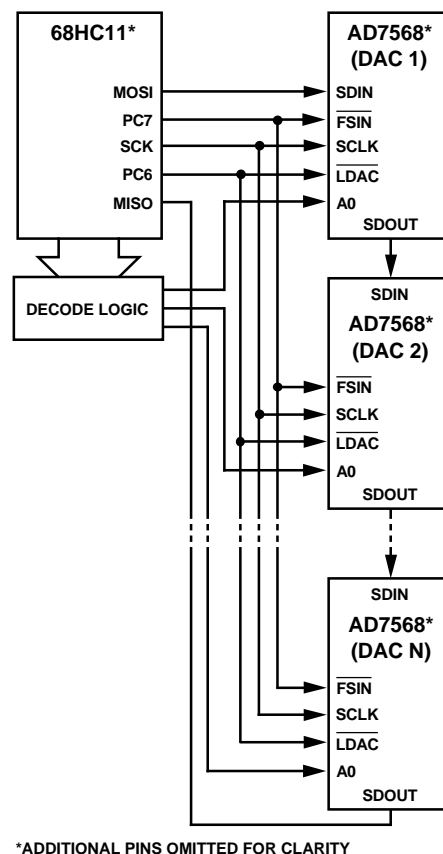

Figure 25. Multi-DAC System
For systems which contain larger numbers of AD7568s and where the user also wishes to read back the DAC contents for diagnostic purposes, the SDOUT pin may be used to daisy chain several devices together and provide the necessary serial readback. An example with the 68HC11 is shown in Figure 25. The routine below shows how four AD7568s would be programmed in such a system. Data is transmitted at the MOSI pin of the 68HC11. It flows through the input shift registers of the AD7568s and finally appears at the SDOUT pin of DAC N. So, the readback routine can be invoked any time after the first four words have been transmitted (the four input shift registers in the chain will now be filled up and further activity on the CLKIN pin will result in data being read back to the microcomputer through the MISO pin). System connectivity can be verified in this manner. For a four-device system (32 DACs) a two-line to four-line decoder is necessary.
**Table V. Routine for Loading 4 AD7568s Connected As in Figure 25**